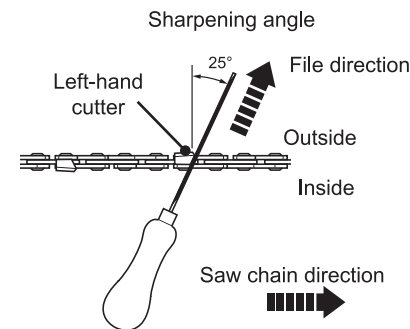

Fig. 42
5. File at an angle perpendicular to the bar, and at an angle of 25° to the direction of travel (Fig. 42).